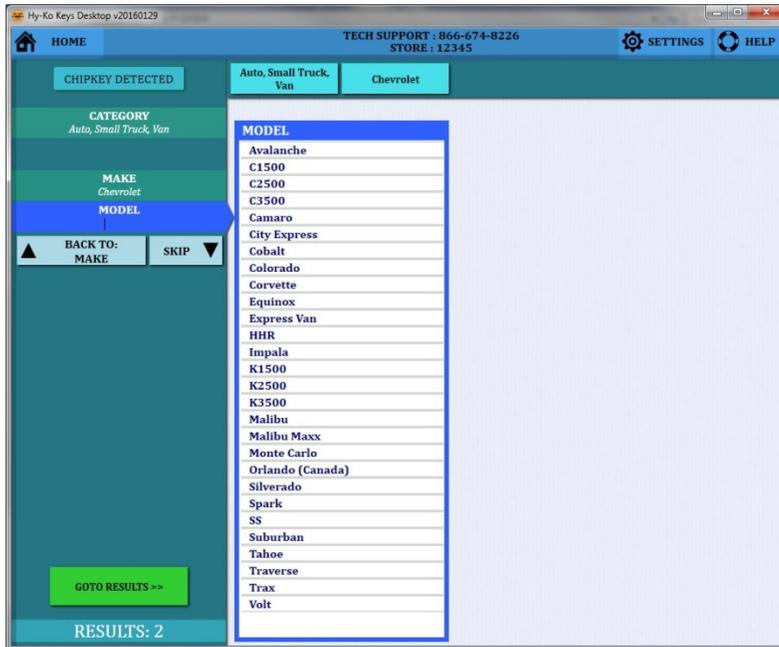

fig. 103
- Choose the Model by clicking on it from the list or by typing it in the ‘**MODEL**’ box on the left (see fig. 103).